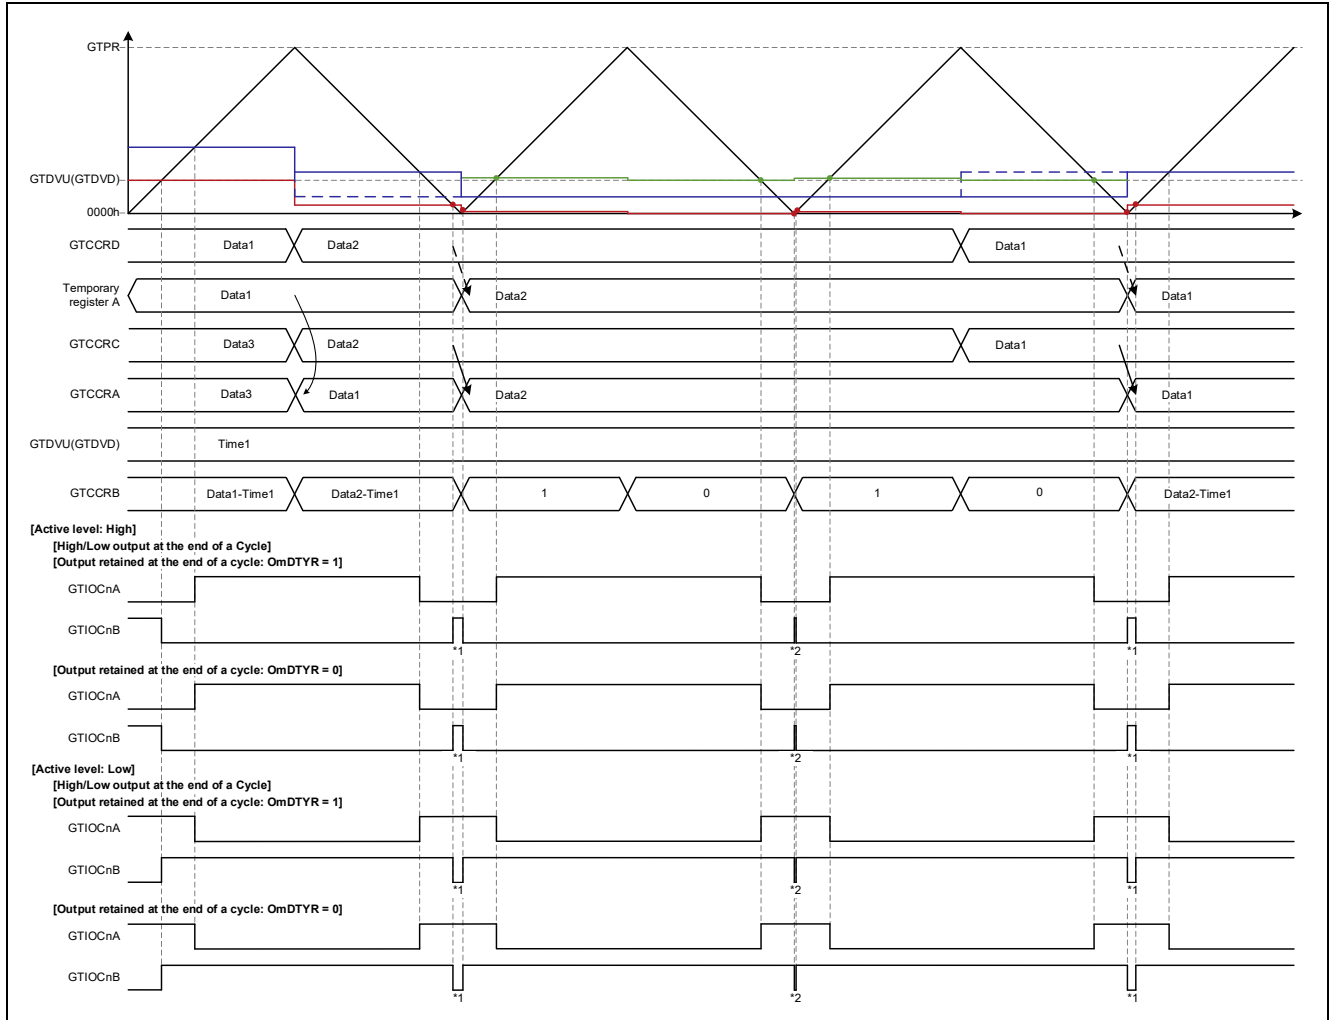

Figure 1.68 Triangle-Wave PWM Mode 3 Operation Example
- [Operation example 3] Figure 1.68, Triangle-Wave PWM Mode 3, Output Start: Trough, Automatic Dead Time Setting Enabled, cautions 1 and 2
Figure 1.68 shows an operation example with automatic dead time setting function enabled in triangle-wave PWM mode 3. Except for the difference in the buffer operation in the various modes, the operation is the same as that shown in Figure 1.66.